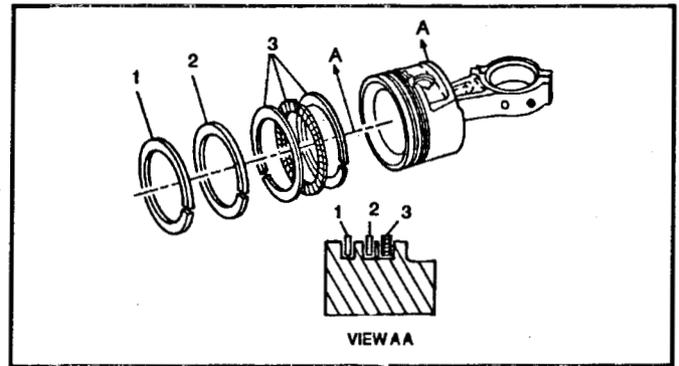

Figure 74
2. Remove the top compression ring, second compression ring and the three piece oil control ring. See Figure 74.